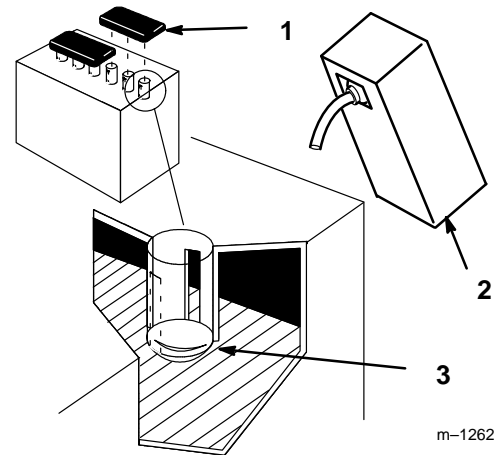

Figure 5
5. Remove filler caps from the battery. Slowly pour electrolyte into each cell until the electrolyte level is up to the lower part of the tube (Fig. 5).
- Slowly pour electrolyte into each cell until the level is once again up to the "UPPER" line on the battery case (Fig. 5) and install covers.